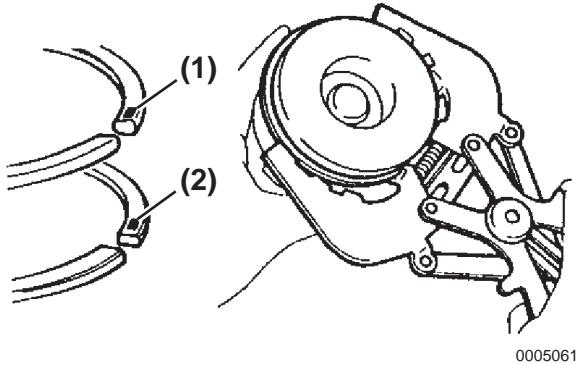

Figure 5-138
8. Using a piston ring expander, install the piston rings with the identification marks facing up (**Figure 5-138**).